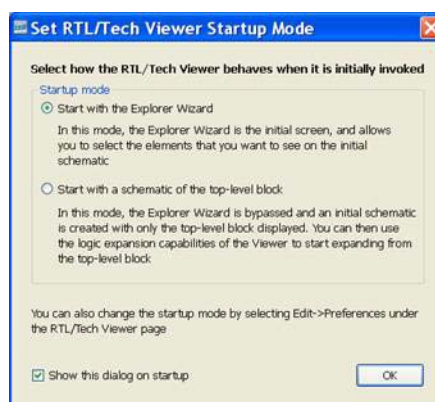

Figure 4-2: Set Viewer Startup Mode
- Select the **Start with the Explorer Wizard** startup mode as shown in Figure 4-2.